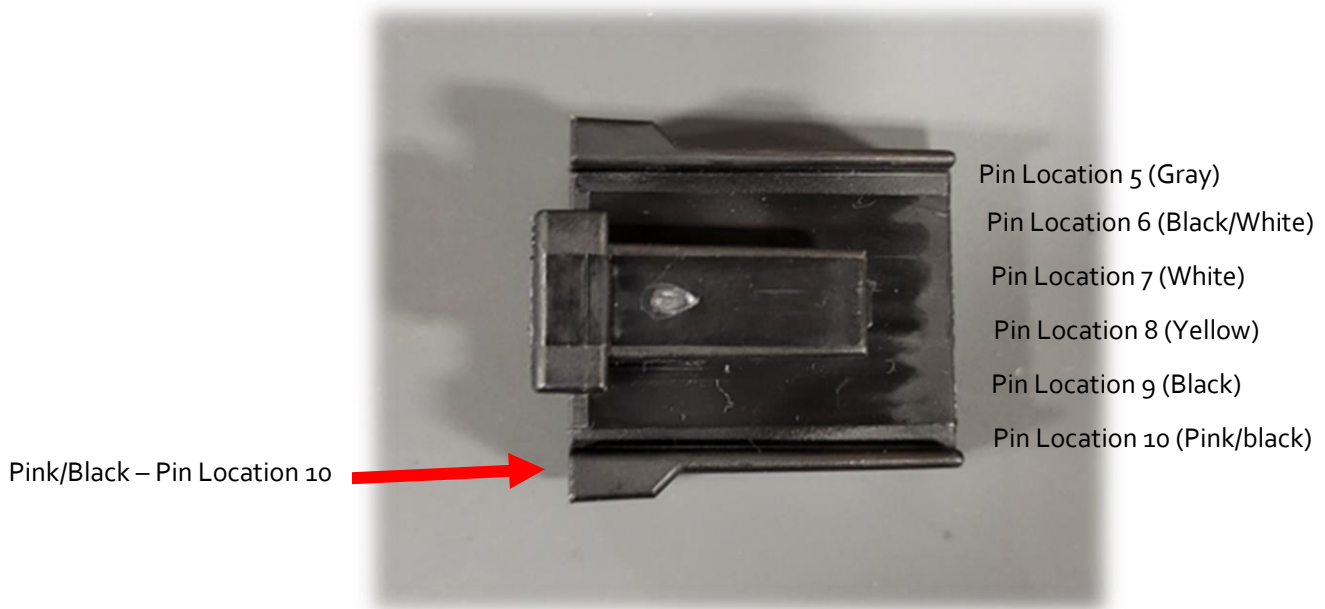

Figure 17
16. Install the pink/black wire which was removed from cluster connector into Pin 10 of the "IN" connector. The connector has small embossed pin location numbers on it. When inserting it will only go in one way and then "click" into place. It should stay fully seated and not be able to pull out. Figure 17.